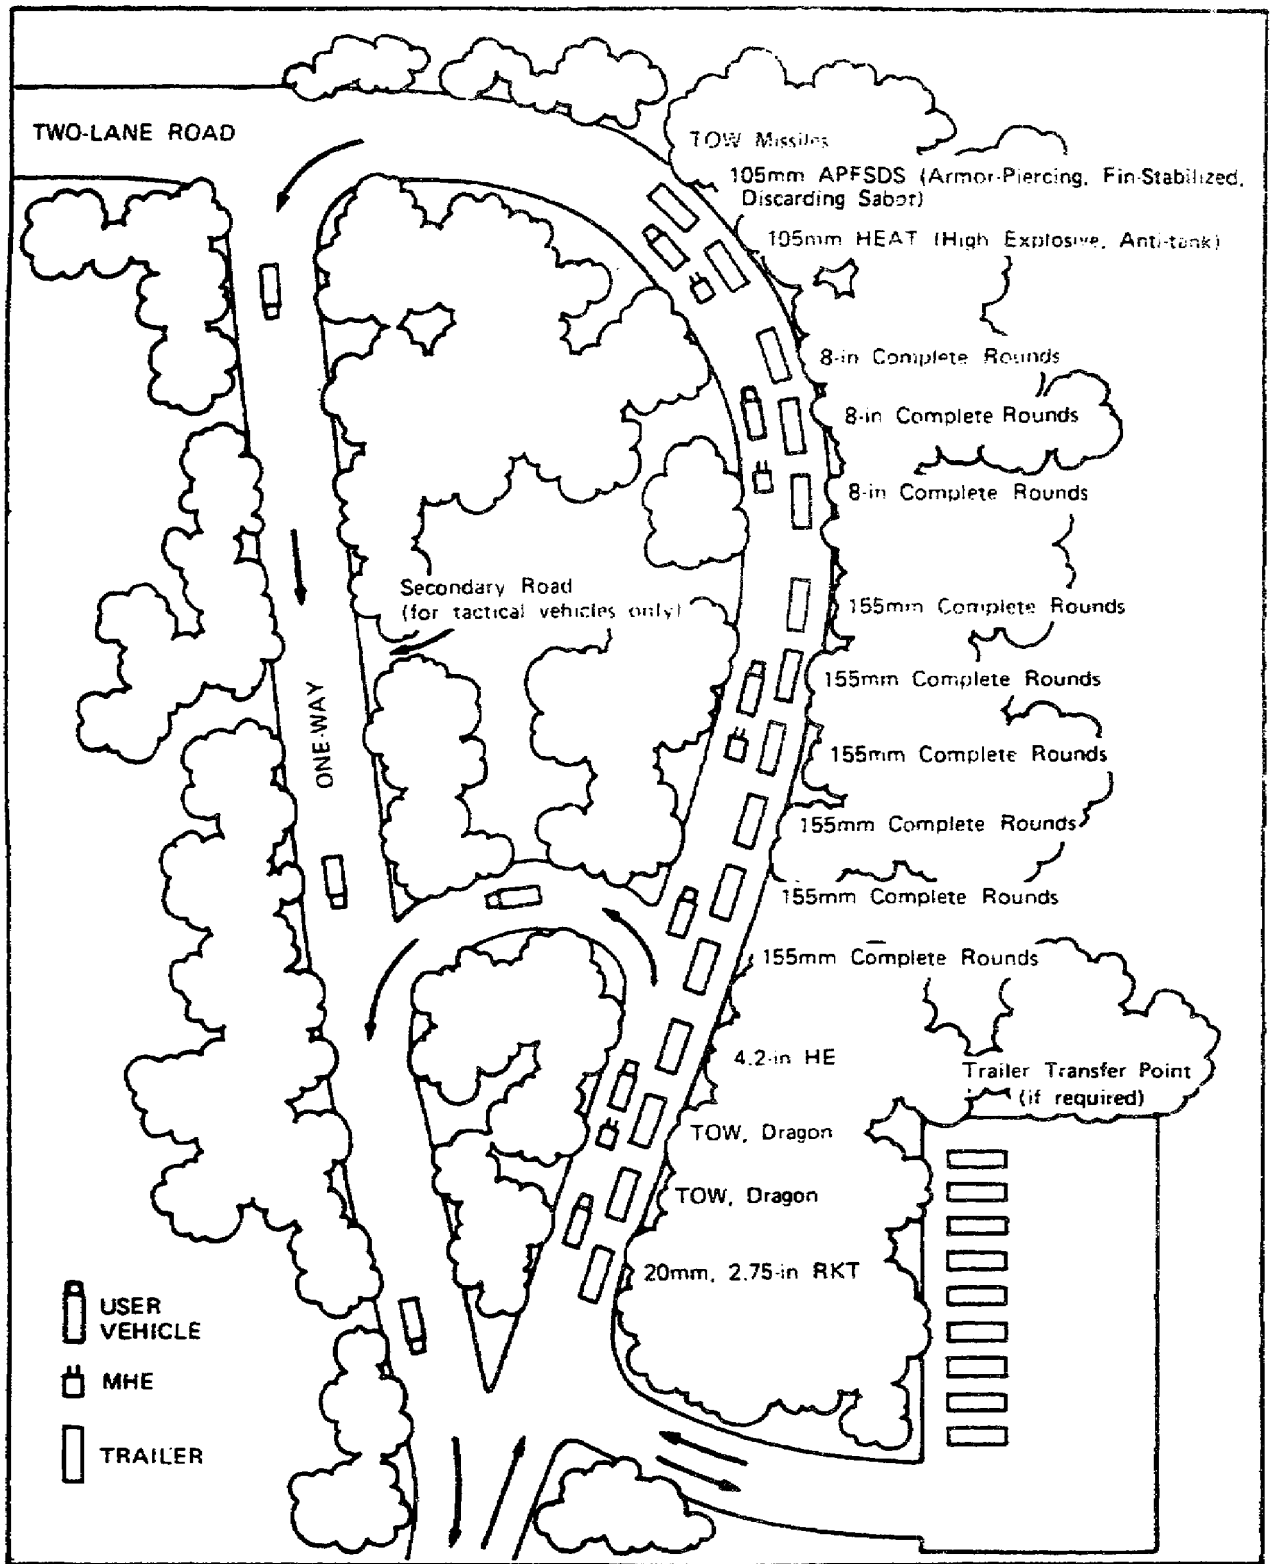

Figure 1-5. Layout of an Ammunition Transfer Point.
**ATP Layout.** ATPs are set up in the brigade rear area for quick resupply of high-usage, high-tonnage items. The layout of an ATP is shown in Figure 1-5.